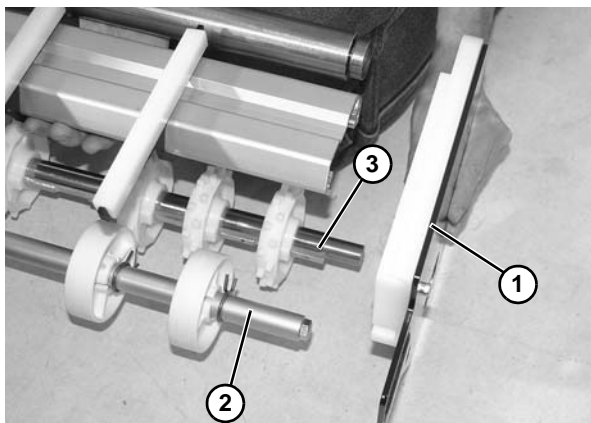

Figure 59
11. Remove end plate (**Figure 59, item 1**), and remove lower roller assembly (**Figure 59, item 2**) from end plate and opposite end plate.
12. Remove drive spindle (**Figure 59, item 3**) from terminal assembly.